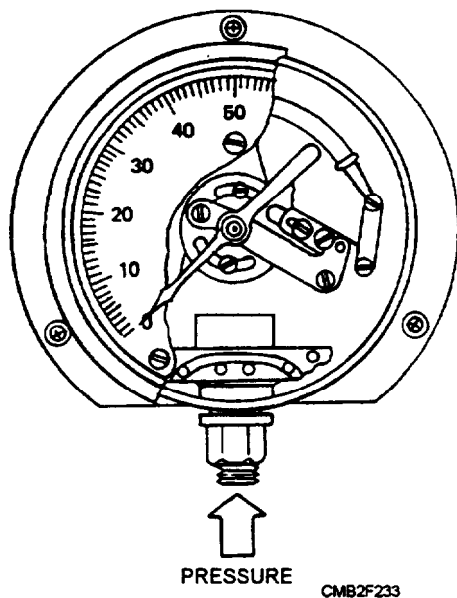

Figure 2-81.—Mechanical pressure gauge.
- The MECHANICAL GAUGE (fig. 2-81) uses a thin tube to carry an actual pressure sample directly to the gauge. The gauge basically consists of a hollow, flexible C-shaped tube, called a bourbon tube. As air or fluid pressure is applied to the bourbon tube, it will tend to straighten out. As it straightens, the attached pointer will move, giving a reading.